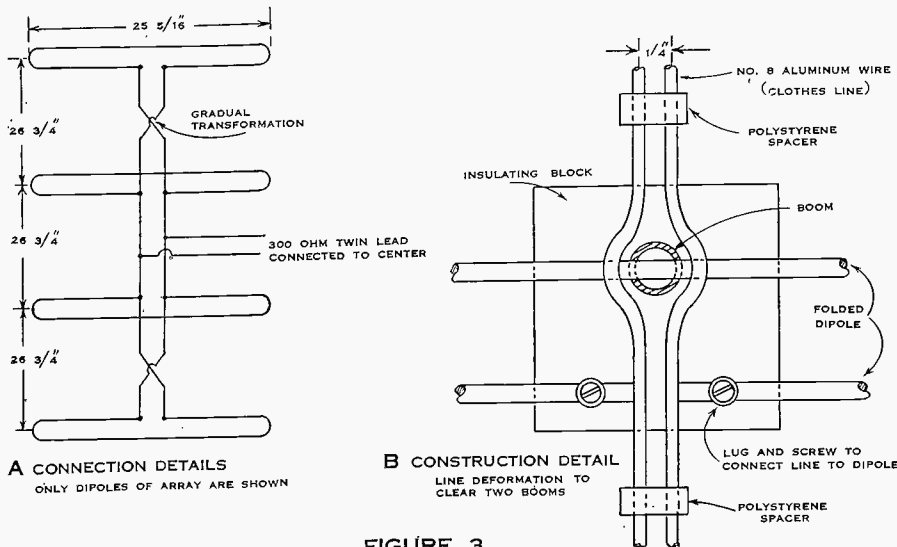

FIGURE 3
*NOTE: See Figure 3 for details of matching the antenna to transmission line.
Since the antennas are quite sharp frequency-wise a separate antenna was used for each channel. Four four-element yagis were stacked on channel 13. Ordinary folded dipoles (conductors of equal size) were used in this array and the impedance of the line connecting the various bays was made of such a value as to properly match the antenna to the conventional 300 ohm twin lead. Details of the channel 13 antenna are shown in Table 2 and Figure 3. The fire tower with the TV antennas attached is shown in the photograph of Figure 4.